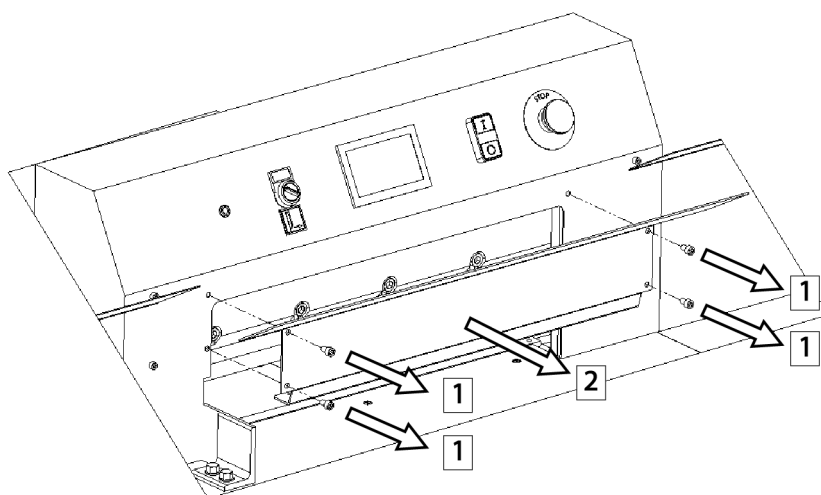

Figure.21
8.1.1.4 Remove the four screws 1 (fig.21) securing the cover 2 and remove the cover 2.